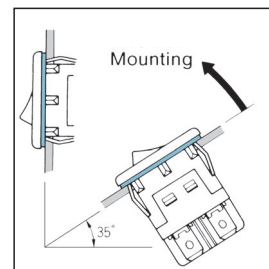

Fig.1.
- (1) When the switch is used in a place where it may be exposed to water splash, mount the switch at a tilt of at least 35 degrees from the horizontal surface. (See Fig. 1.)